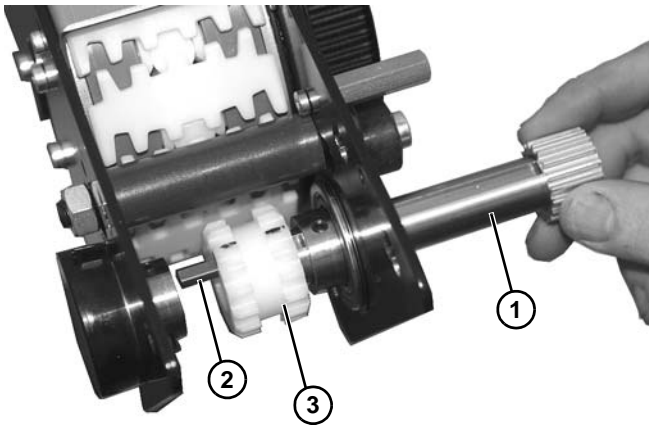

Figure 155
16. Remove drive shaft (**Figure 155, item 1**), making certain not to lose key (**Figure 155, item 2**) when removing gear (**Figure 155, item 3**).